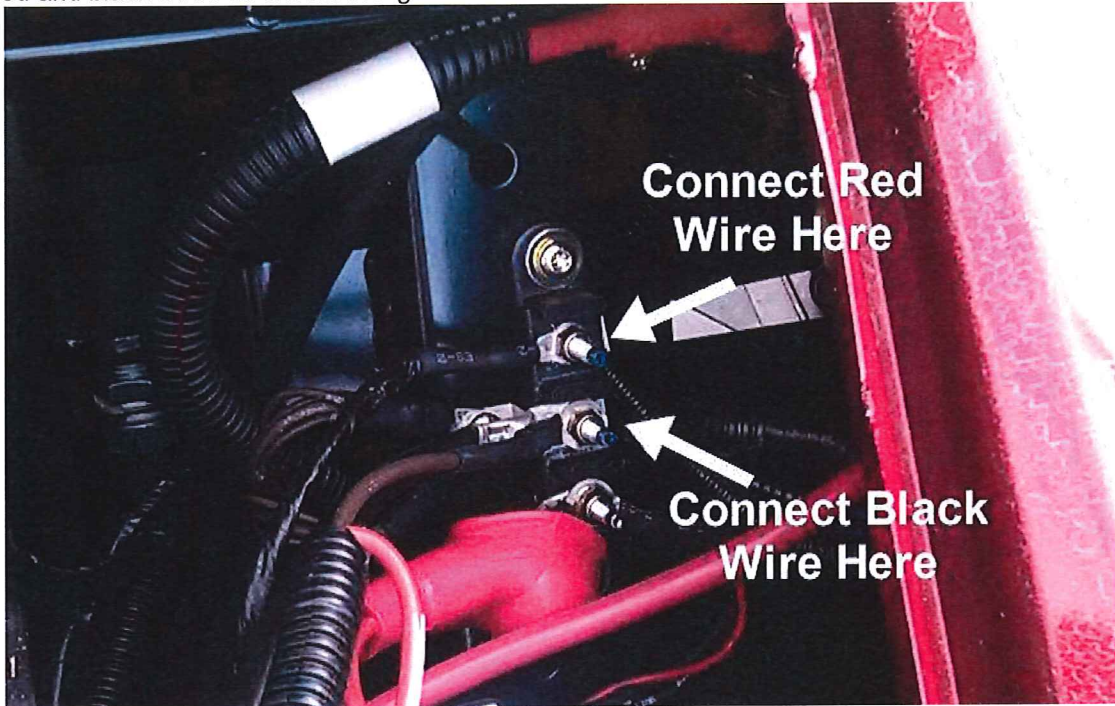

Figure 9
39. Run the Wiring Loom up to the power connection block as shown in Figure 9.
40. Connect the red and black wires as shown in Figure 9.